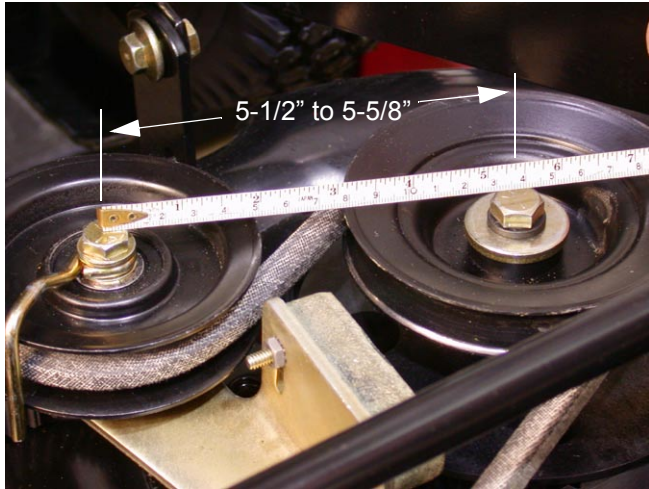

Figure 11
- 3.4. With the engine OFF have a helper engage the blade drive. Measure the distance between the center of the idler pulley and the left drive pulley. The measurement should be between 5 1/2" and 5 5/8". See Figure 11.